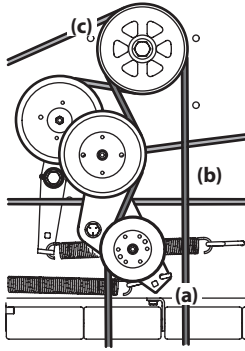

Figure 4-15
- Using a ½" drive in the idler pulley bracket (a), turn the wrench towards the right of the tractor and slide the PTO belt (b) off the PTO pulley (c). See Figure 4-15.